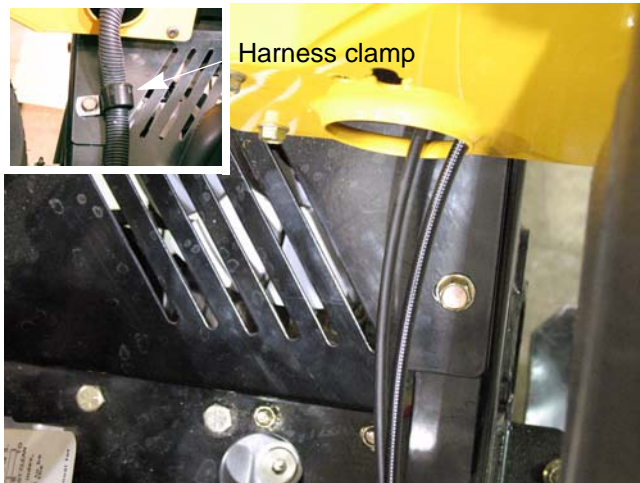

Figure 5.3
7. Remove the two screws that secure the fan cover to the frame using a 1/2" wrench. See Figure 5.3.
NOTE: On the mowers equipped with a 60" deck, the screw on the left side also goes through the harness clamp. See Figure 5.3. Insert.